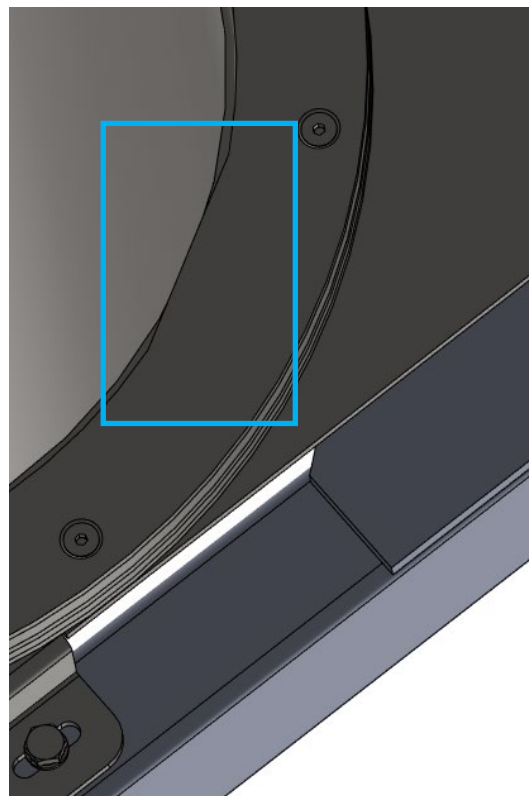

Figure 10: Correct positioning of the Hobbock container in the barrel support
6. **IMPORTANT:** the clamping force of the quick-release clamp must be high enough to ensure that the lip of the Hobbock container, as shown in Figure 10, is pushed into the barrel support, thereby preventing the Hobbock container from falling out during stirring.